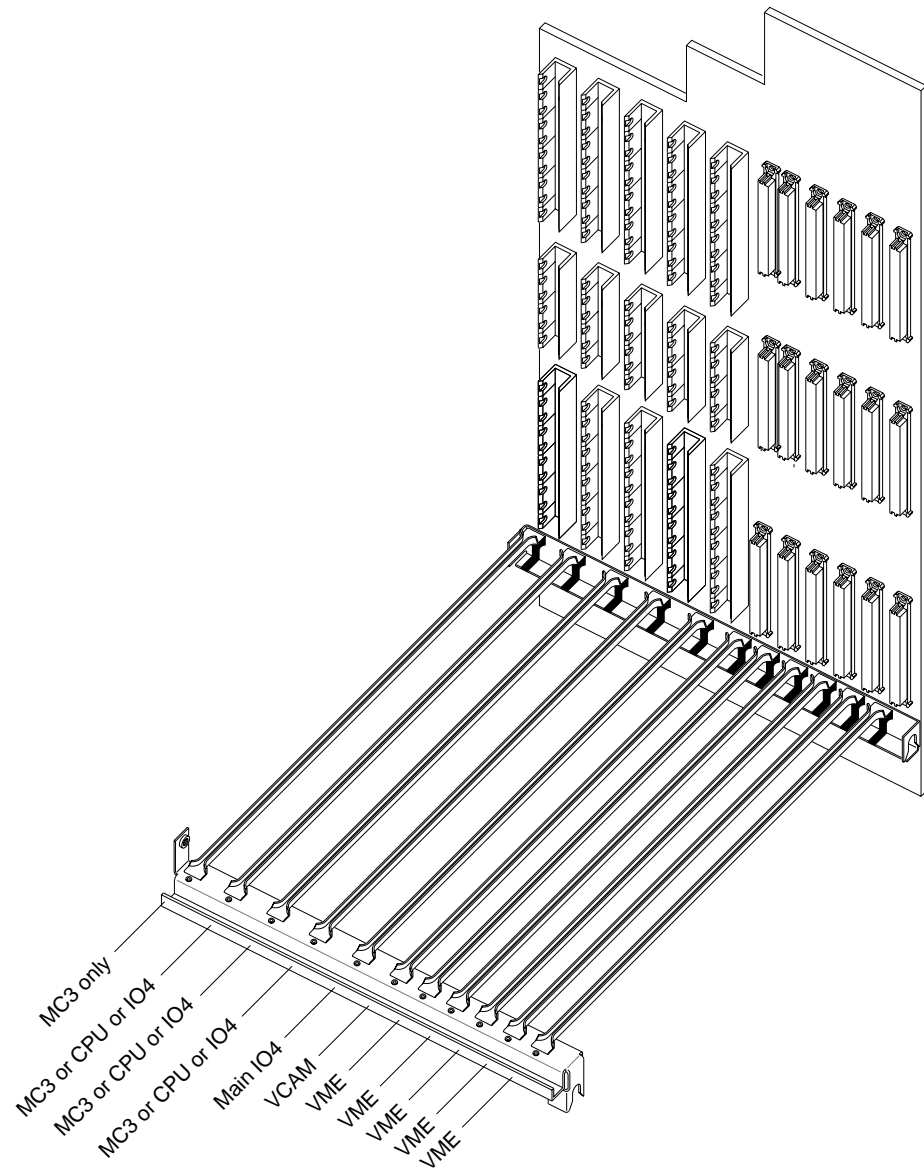
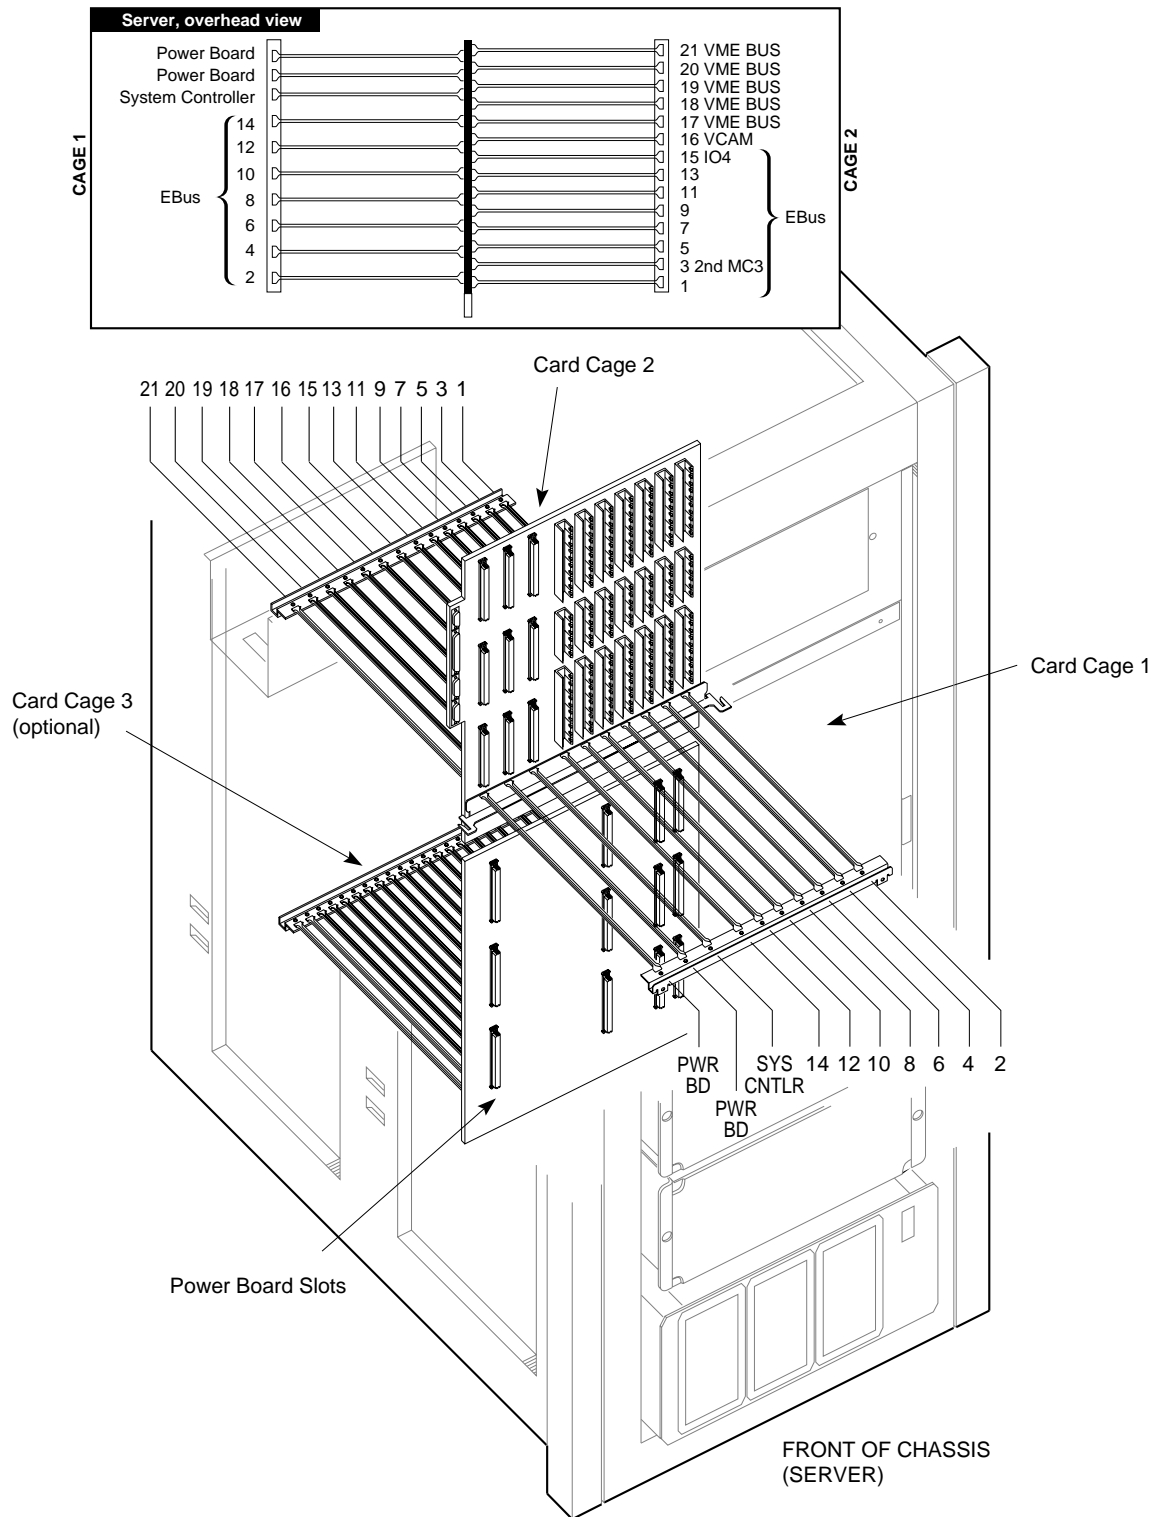

Figure 2-2 CHALLENGE L VMEbus Slot Locations
Figure 2-3 CHALLENGE XL VMEbus Slot Locations
5. Select a VMEbus slot for the EFAST board. It is recommended that you use the first available VMEbus slot. For a CHALLENGE L (deskside) system, see Table 2-7 and Figure 2-2 for additional information. For a CHALLENGE XL (rackmount) system, see Table 2-8 and Figure 2-3.